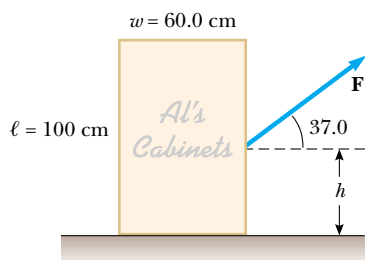

Figure P12.53 Problems 53 and 54.
53. A force acts on a rectangular cabinet weighing 400 N, as in Figure P12.53. (a) If the cabinet slides with constant speed when $F = 200$ N and $h = 0.400$ m, find the coefficient of kinetic friction and the position of the resultant normal force. (b) If $F = 300$ N, find the value of h for which the cabinet just begins to tip.